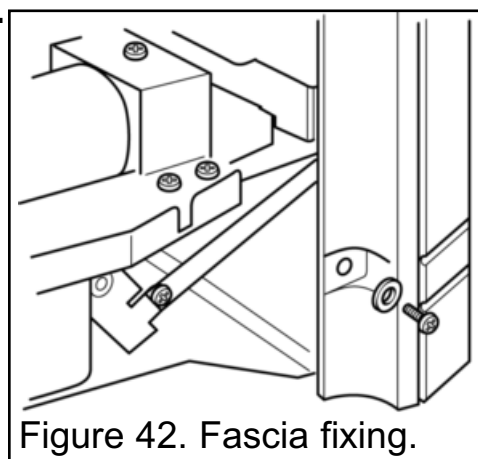

Figure 42. Fascia fixing.
3. Remove the two screws and washers securing the bottom of the fascia to the sides of the convection box (See figure 42).